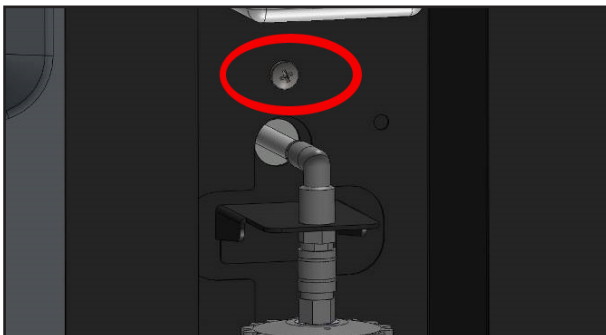

Fig. 14: Removing oil load cell retention screw
2. On the oil bottle panel, remove the screw circled that is located above the UV dye bottle connection (Fig. 14).